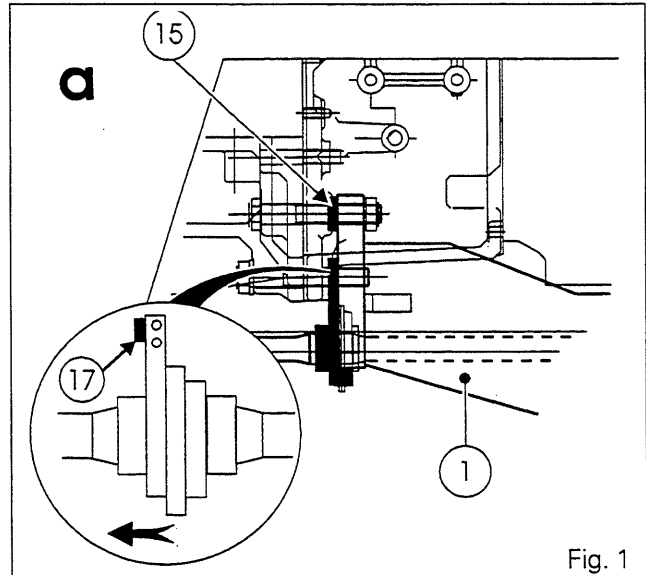

Fig. 1
**Installation a** (Fig. 1) - 4WD tractors
(15) Spacers welded onto crossbeams (1)
(17) Shim welded onto drive shaft support